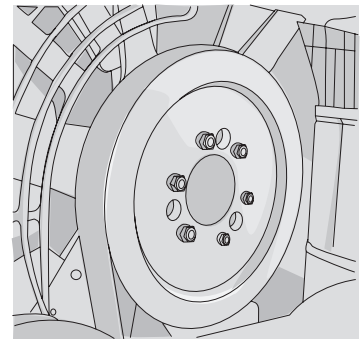

Figure 4-1
1. 1 place: Fan pulley (Figure 4-1)